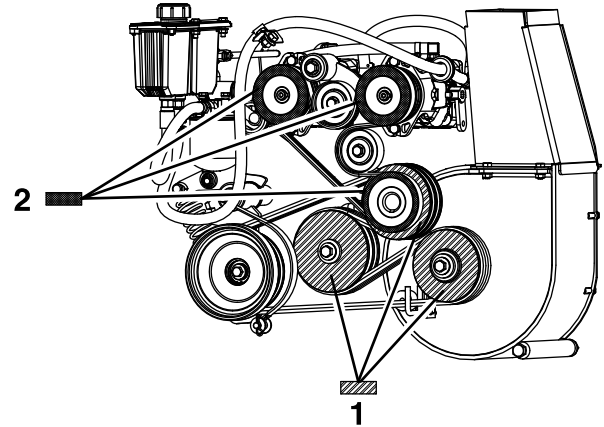

Figure 58
- Measuring from the blower pulley as a baseline, move the engine and jackshaft until the rear surface of all 3 pulleys are aligned within 0.8 to 1.6 mm (1/32 inch to 1/16 inch) (Figure 58).
4. Using a straight edge, align each pump pulley with the engine pulley by sliding it along the pump shaft (Figure 58).